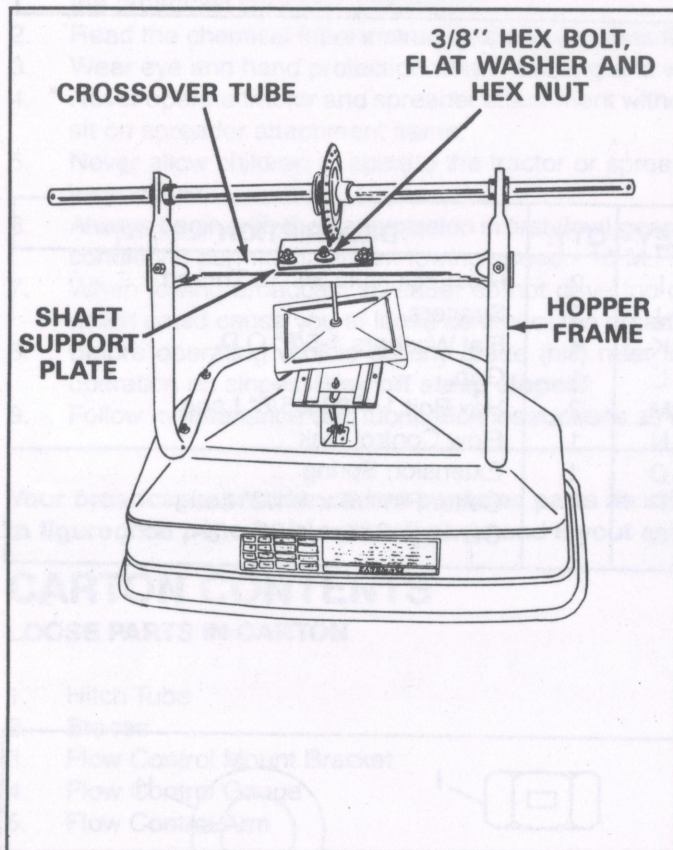

FIGURE 3
- 2. Turn the spreader upside down as shown in figure 3, so that it rests on the hopper.
- 3. Remove the 3/8" hex bolt, flat washer and hex lock nut from the center of the crossover tube and shaft support plate. See figure 3.
- 5. Assemble short end of hitch tube to the crossover tube (on opposite side from shaft support plate). Fasten to the center hole in the crossover tube using the previously removed 3/8" x 2" hex bolt, the 3/8" flat washer and the 3/8" hex lock nut. See figures 3 and 4. **DO NOT TIGHTEN AT THIS TIME.**